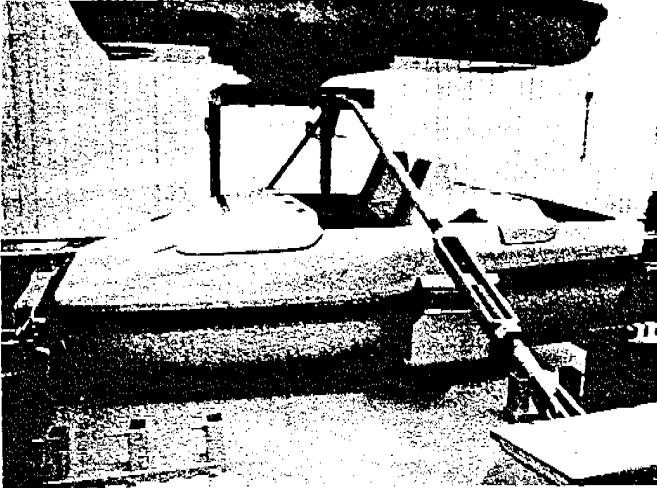

Fig. 45
- e. Secure the turnbuckle between the car rack and the tower rest. PIN AND KEY both ends. (Fig. 45)